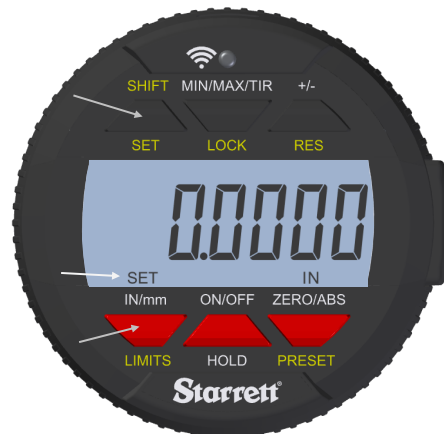

Fig.6A
2. Press the **SHIFT/SET** button. The SET icon will appear in the bottom left corner Fig.6A. Fig.6C shows an alternative display where the (S)ET icon appears in the top left side of the LCD.